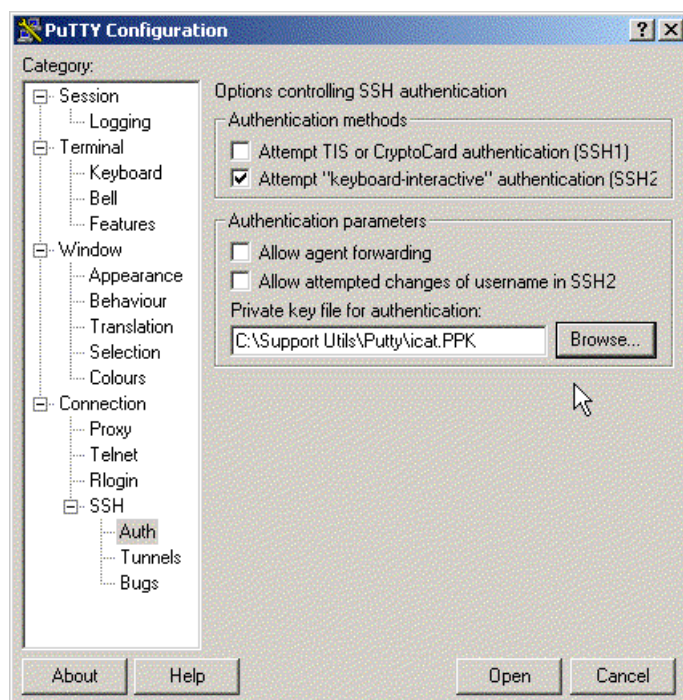

Figure 5-2 PuTTY Configuration: Private key location
7. In the right panel, in the Private key file for authentication: field under the Authentication Parameters section, type the fully qualified directory path and file name of the SSH client private key file you created earlier. See Figure 5-2.